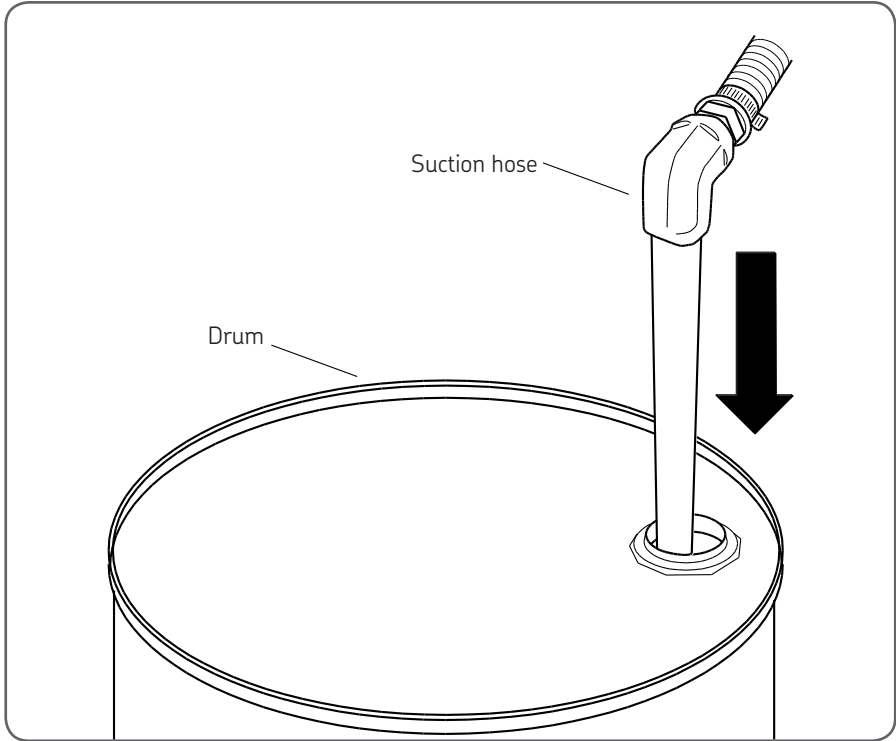

Fig 18 Place suction tube
2. Place the tube-end of the loading hose into the oil drum or container (208 litre/55 US gal drum). See figure 18.